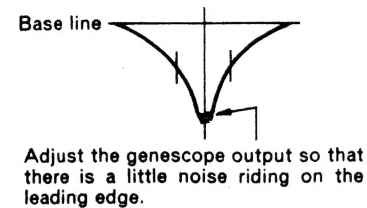

Fig. 4
6. Feed in a weak signal from the genescope. Adjust T151, T201, T204 for maximum gain and the waveform of Figure 4.